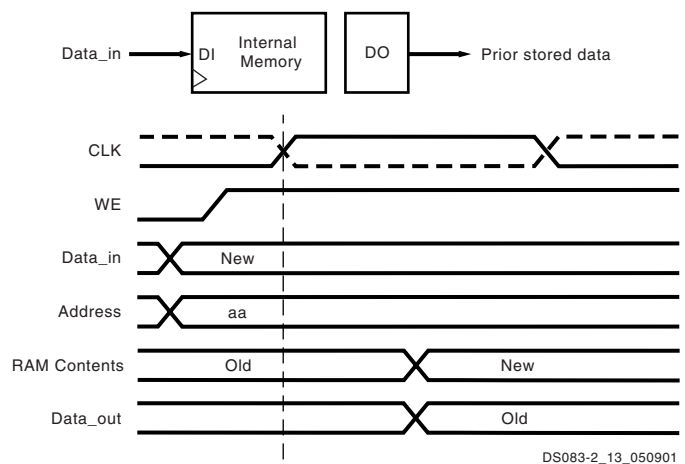

Figure 40: READ\_FIRST Mode
The same clock edge that writes data input (DI) into the memory also transfers the prior content of the memory cell addressed into the data output registers DO, as shown in **Figure 40**.